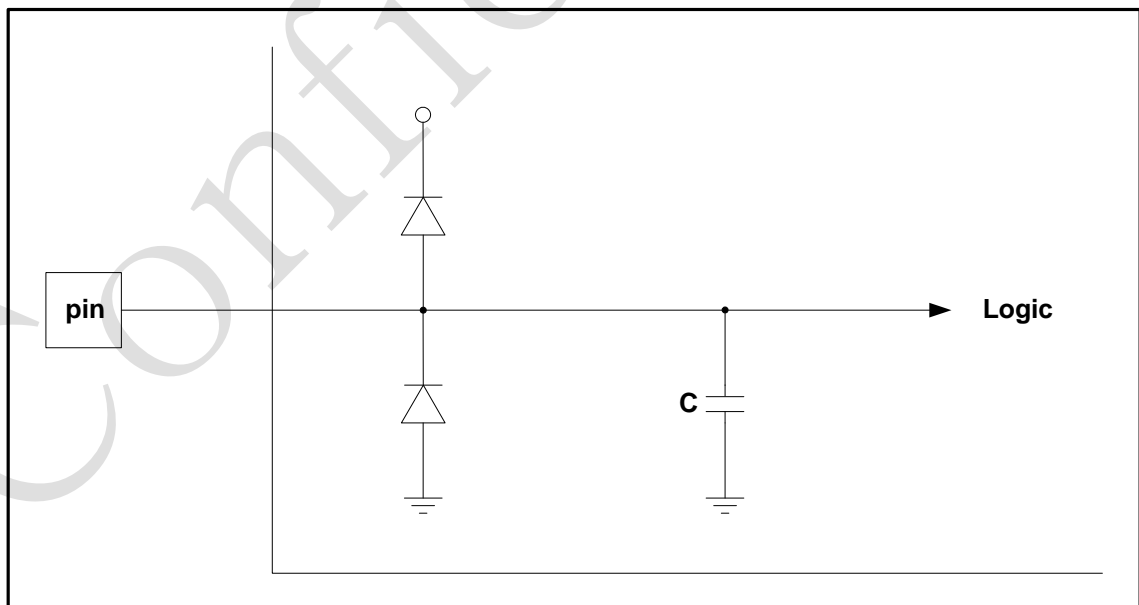

Figure 2-1. ESD protection circuit
ESD protection circuit for the whole chip is achieved as shown in Figure2-1. It can be protected the chip against two widely used industry standard ESD test models: Human Body Model (HBM) and Machine Model (MM). Both of these models test each pin against every other pin and/or a power/ground supply using a positive and a negative pulse.